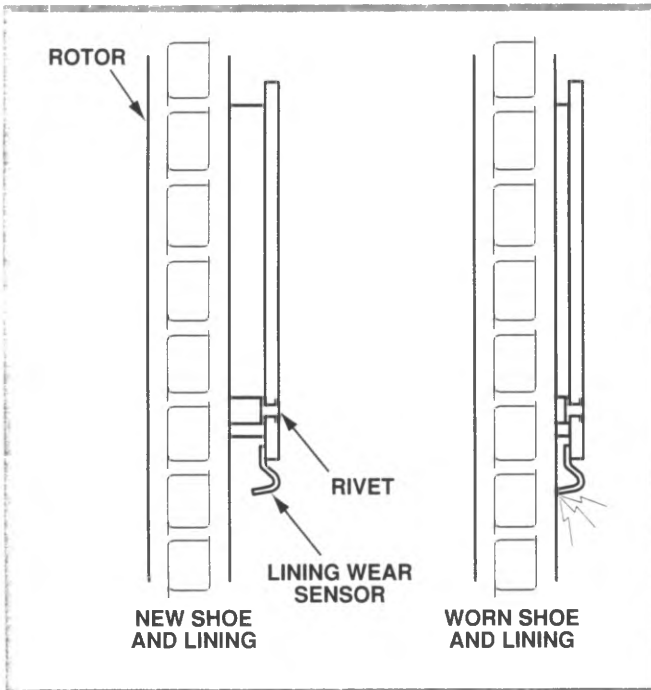

Figure 8-4, Pad Wear Sensor Operation
- Pad wear allows the sensor to contact the brake rotor (figure 8-4) when brakes are not applied